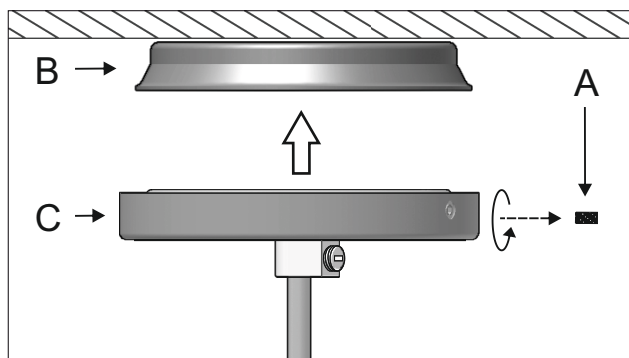

Figure 5
5 - Place back the canopy (C) and fasten the side screw (A) previously removed. Figure 5.